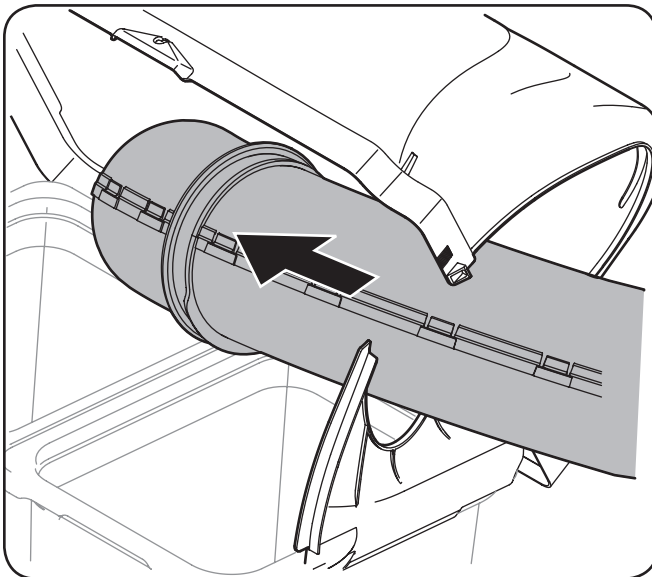

Figure 4-21
2. With the grass catcher cover open, install the upper discharge chute through the discharge chute opening, as shown in Figure 4-21.